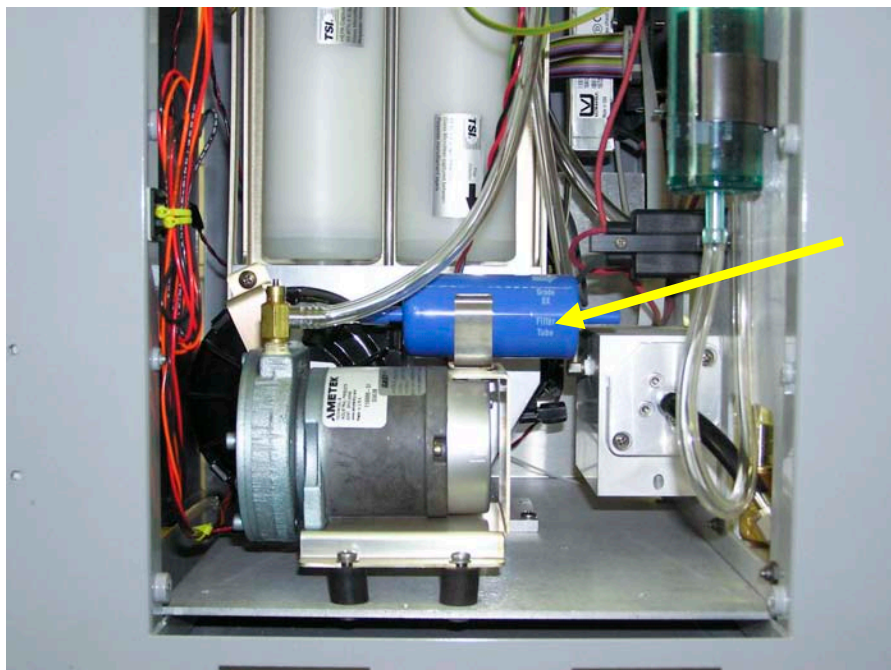

Figure 6-14
3. Locate the pump exhaust filter as shown in Figure 6-14.